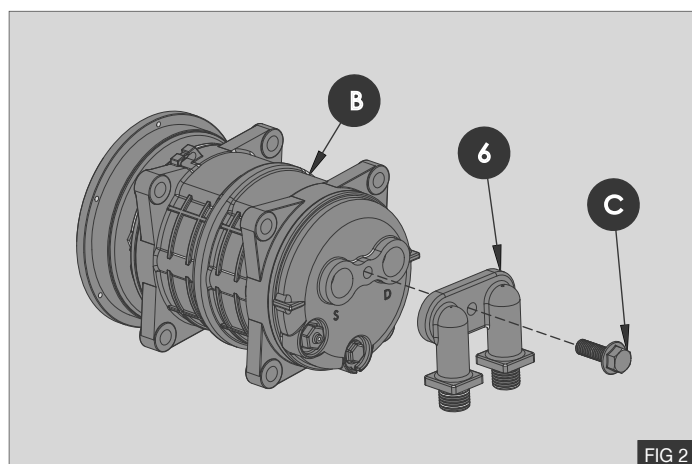

FIG 2
1. Install the supplied inverted manifold **(6)** to the compressor **(B)** using the original bolt **(C)** - Fig 2